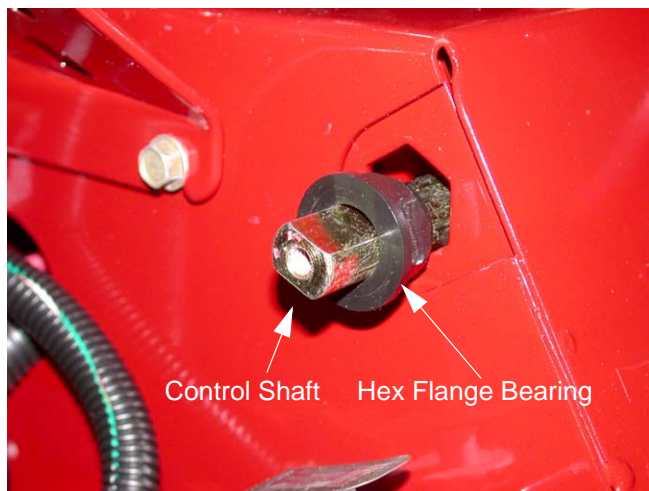

Figure 16.8
- 16.8. Pull the control hub off the control shaft. See Figure 16.8.